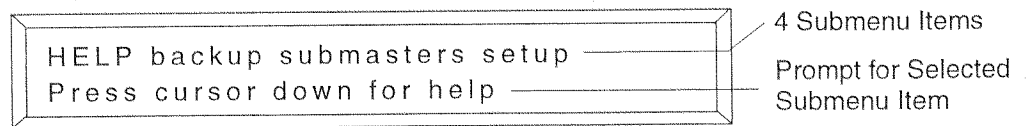

Figure 5.1. Main Menu
1. Press the MENU key. The LCD window displays the Main menu showing all the submenus as Figure 5.1 shows.
Notice that all submenus are listed only in the top row. The second row provides prompts or values for the selected submenu item. To select a submenu item from the Main menu, press the CURSOR Left or Right Arrow key. The four menu CURSOR keys surround the MENU key. Notice that each time you press the CURSOR Left or Right Arrow keys a different menu item changes. Also notice that the letters in the name of the selected submenu item are capitalized or, in some cases, an item is enclosed in square brackets “[]”. Figure 5.1 shows HELP as the default item and that you press the CURSOR Down Arrow key to display the help messages. Remember that capital letters or bracketed letters or numbers indicate a *selected* menu item.